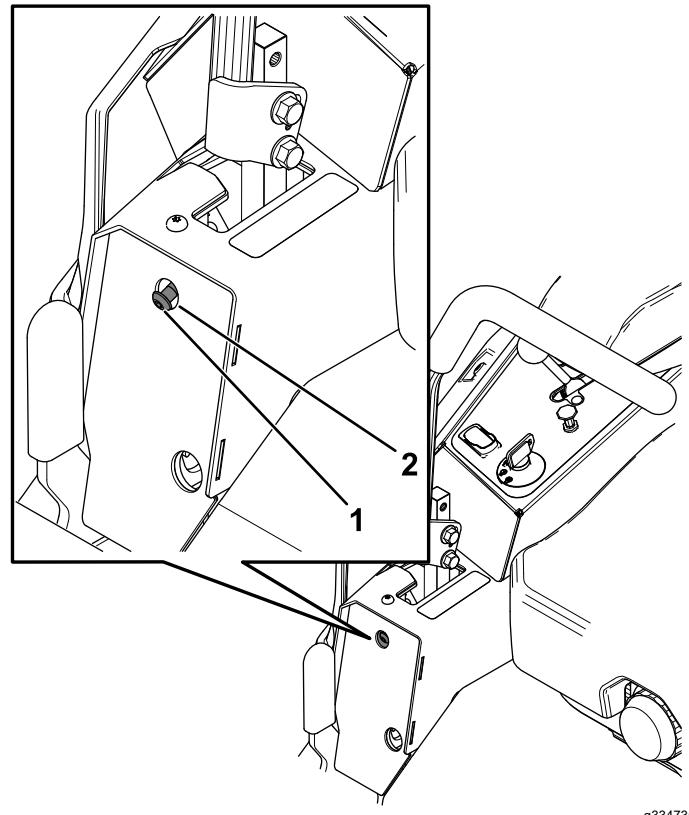

Figure 57
6. If the machine tracks to the right, insert a 3/16 inch hex wrench through the access hole in the left, front cover panel and rotate the tracking screw clockwise or counterclockwise to adjust the travel of the lever (Figure 57).
7. If the machine tracks to the left, insert a 3/16 inch hex wrench through the access hole in the right, front cover panel and rotate the tracking screw clockwise or counterclockwise to adjust the travel of the lever (Figure 57).